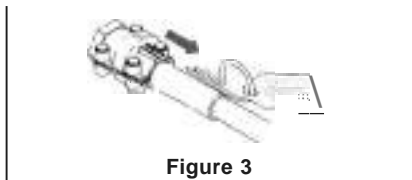

Figure 3
**STEP 1.** Remove hitch pin from helm (See Figure 3)